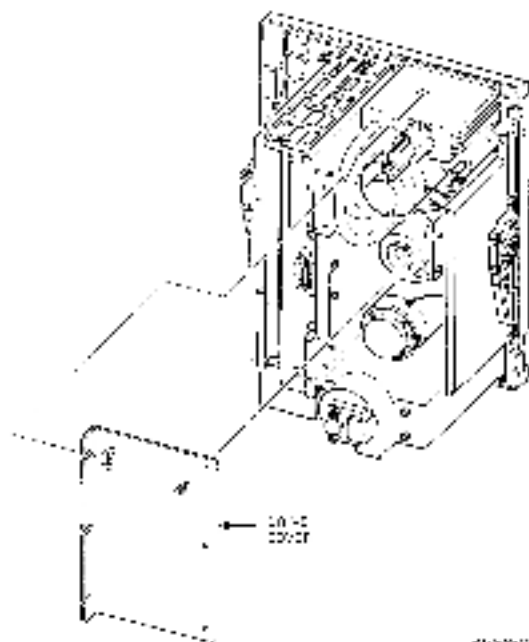

Fig. 4-3 Protective Drive Cover
2. Loosen the three wing nuts and three thumbscrews securing the cover and remove the cover assembly (Figure 4-3).
1. Place the drive cover in position so that the cooling fan wires are placed in the feed-through holes (Figure 4-3).
1. Remove the four mounting screws from the take-up reel hub cover and remove the cover from the hub assembly (Figure 4-3).